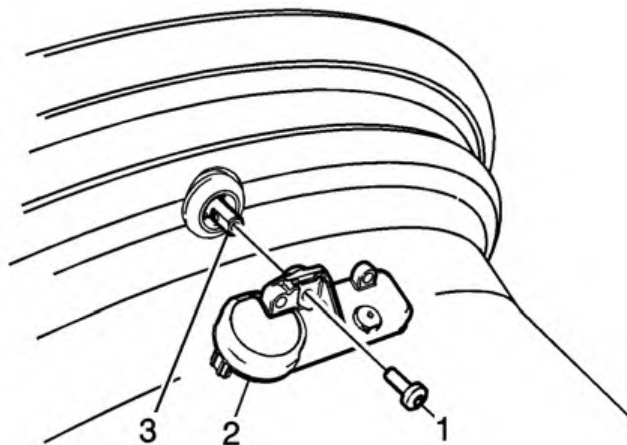

Fig. 2: Exploded View Of Tire Pressure Sensor Assembly.
3. Remove the TORX screw (1) from the tire pressure sensor (2) and pull it straight off the tire pressure valve stem (3). See Fig. 2.